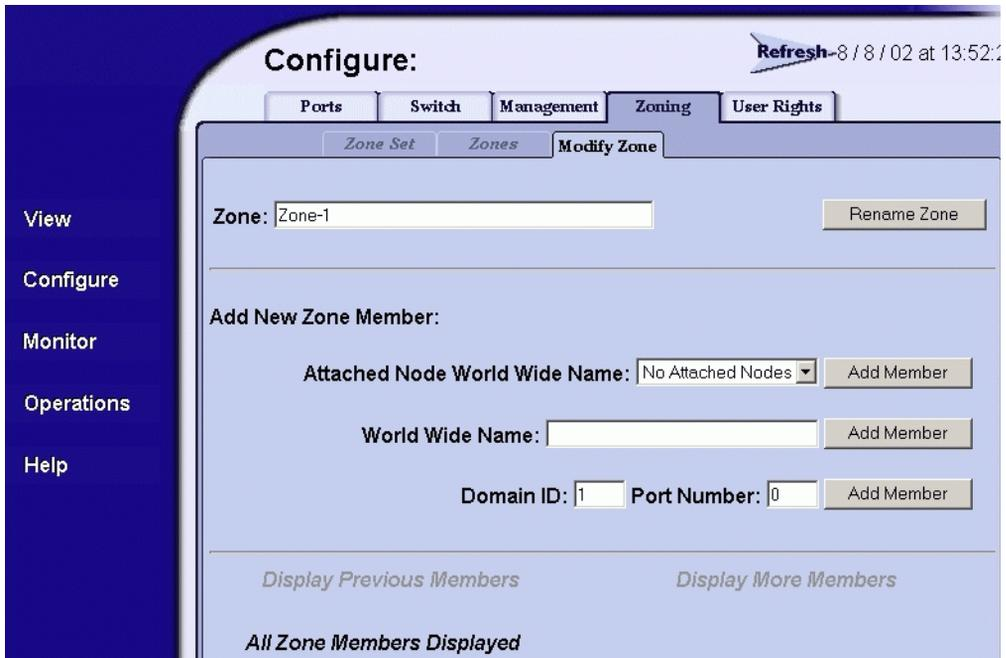

Figure 2–14: Zoning page—Modify Zone tab
4. To add devices (members) to the zone, click the zone name (**Zone-1**). The **Zoning** page displays with the **Modify Zone** tab selected, as shown in Figure 2–14.